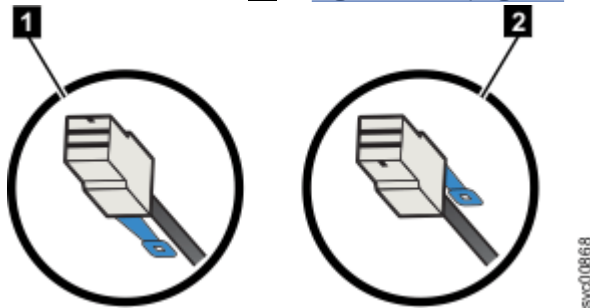

Figure 51. SAS cable connector orientation
When you insert SAS cables, make sure the connector (Figure 51 on page 94) is oriented correctly.
- For FlashSystem control enclosure node canisters and 2U expansion enclosures, the blue pull tab must be below the cable (1 in Figure 51 on page 94).
- For 5U expansion enclosure canisters, the blue pull tab must be above the connector (2 in Figure 51 on page 94).